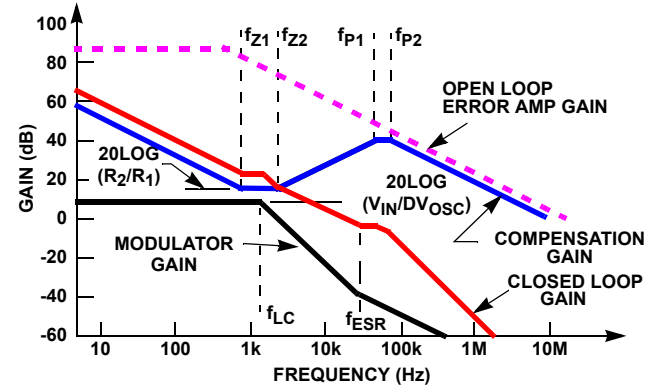

FIGURE 49. ASYMPTOTIC BODE PLOT OF CONVERTER GAIN
Figure 49 shows an asymptotic plot of the DC/DC converter's gain vs frequency. The actual modulator gain has a high gain peak due to the high Q factor of the output filter and is not shown in Figure 49. Using the guidelines provided should give a compensation gain similar to the curve plotted. The open-loop error amplifier gain bounds the compensation gain. Check the compensation gain at f_{p2} with the capabilities of the error amplifier. The closed-loop gain is constructed on the graph of Figure 49 by adding the modulator gain (in dB) to the compensation gain (in dB). This is equivalent to multiplying the modulator transfer function to the compensation transfer function and plotting the gain. The compensation gain uses external impedance networks Z_{FB} and Z_{IN} to provide a stable, high bandwidth (BW) overall loop. A stable control loop has a gain crossing with -20dB/decade slope and a phase margin greater than $+45^\circ$. Include worst case component variations when determining phase margin. A more detailed explanation of voltage mode control of a buck regulator can be found in Tech Brief TB417, entitled "Designing Stable Compensation Networks for Single Phase Voltage Mode Buck Regulators".